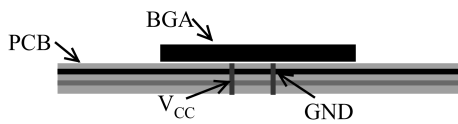

FIGURE 8. BGA Powered with Vias Under the Package
1. Supplying power and ground to the BGA by connecting vias to the V_{CC} /GND planes and traces under the BGA package. See Figure 8 for via placement.